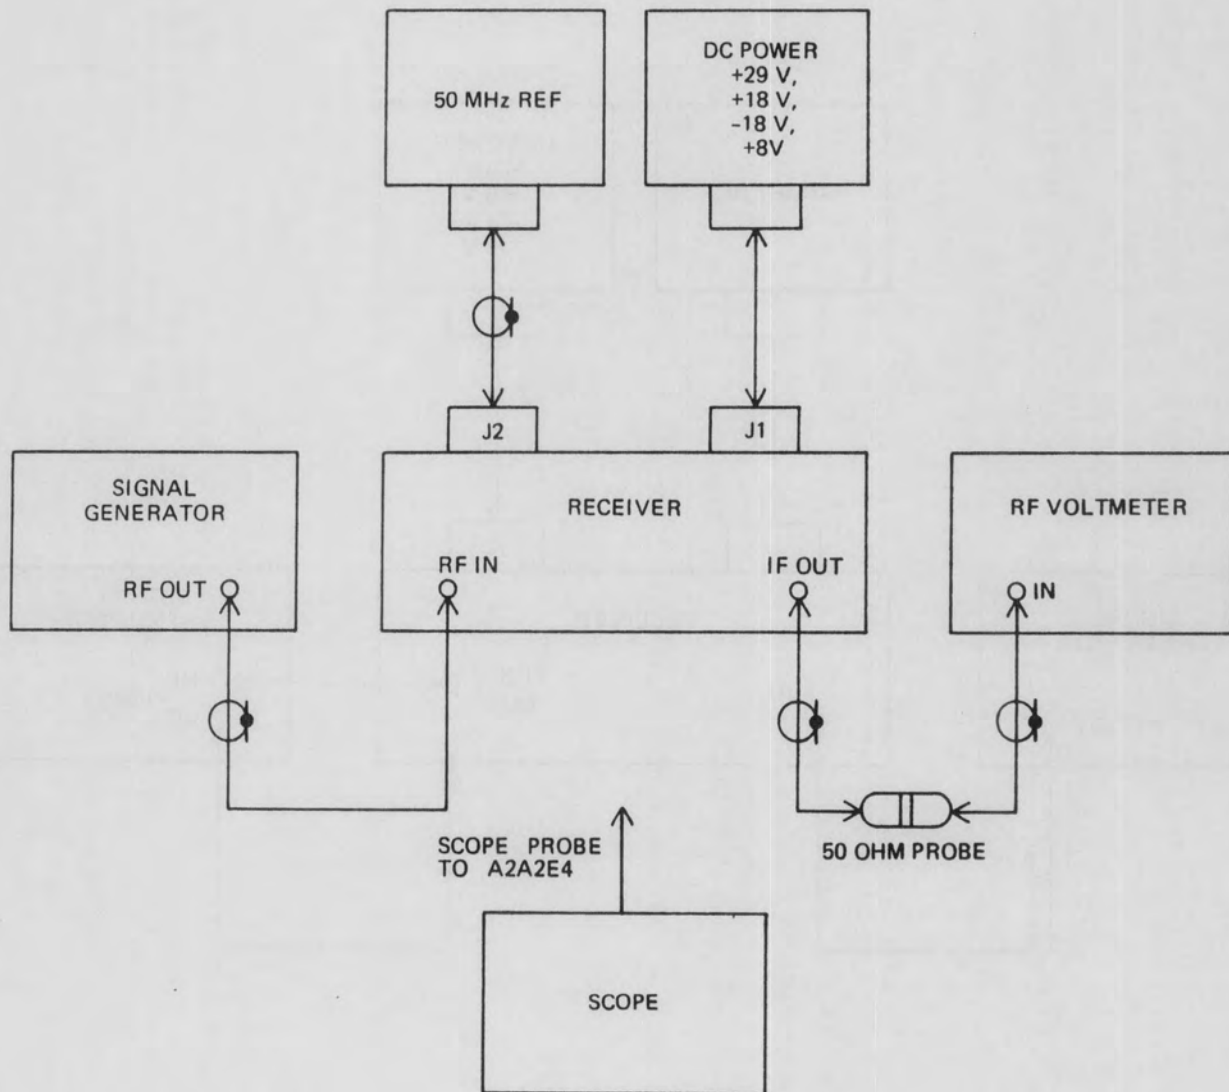

Figure 4-12. Receiver IF Gain Adjustment Equipment Setup
1. Connect the receiver as shown in **Figure 4-12**.